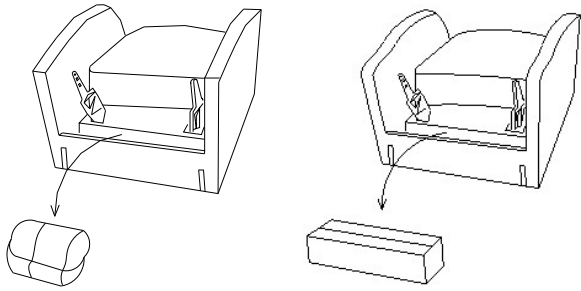

Figure 1
**1.** The Wooden Legs are located at the rear of seat cushion, remove all the Wooden Legs from the package or box (See Figure 1) and apply the plastic washer on top that is provided. Attached each Wooded Leg to corresponding pre-drilled holes by hand turning on clockwise direction as figure underneath(See Figure 2).